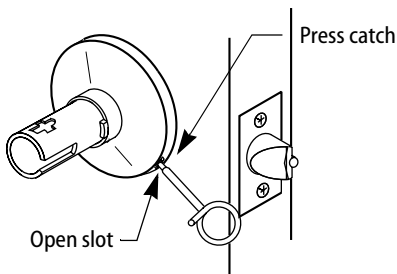

Figure 6—Pressing the rose catch
- 4 Slip the inside rose over the sleeve aligning the open slot on the edge of the rose with the spring catch on the rose liner as shown in Figure 6.